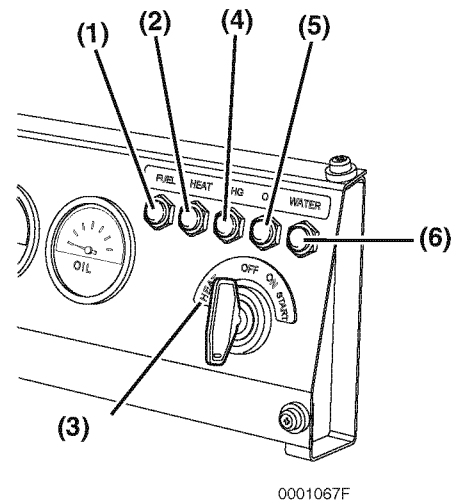

Figure 4
Fuel Filter - (Figure 4, (1)) - This indicator will come on if the fuel filter / water separator senses the presence of water. If the indicator comes on, see *Drain Fuel Filter / Water Separator* on page 45.
Heat - (Figure 4, (2)) - Note that you must turn the key to the HEAT position (Figure 4, (3)) to activate the glow plugs. The indicator will flash for several seconds when you turn the key to HEAT and when it goes out, you can turn the key switch to START.
Battery - (Figure 4, (4)) - This indicator will come on if there is a problem in the charging system. This indicator does not indicate whether the battery is discharged. See the *Troubleshooting Chart* on page 64.
Engine Oil Pressure - (Figure 4, (5)) - This indicator will come on if the engine oil pressure is below or exceeds normal limits. See the *Troubleshooting Chart* on page 64.
Engine Coolant Temperature - (Figure 4, (6)) - This indicator will come on if the engine coolant temperature exceeds normal limits. See the *Troubleshooting Chart* on page 64.